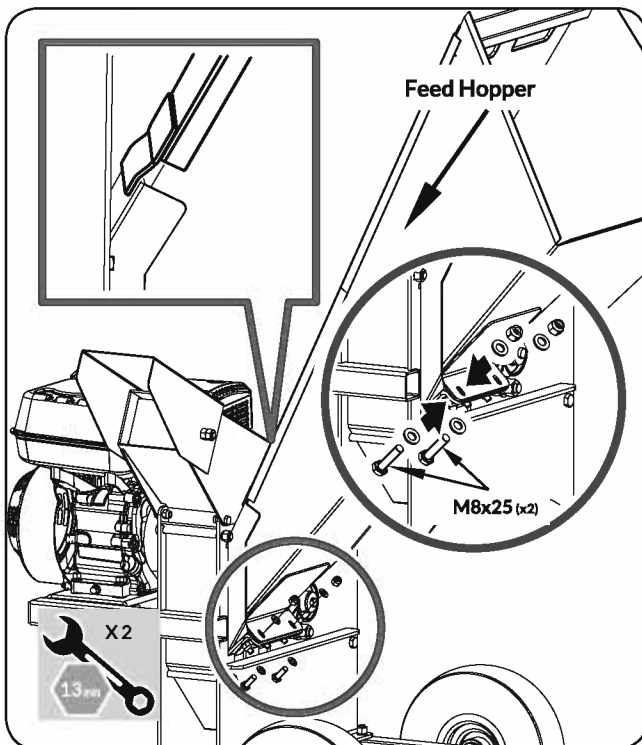

Figure 7
- Place the feed hopper onto the machine. Make sure the lip on the hopper goes over the chute housing on the main machine. Tighten the feed hopper on the unit with M8x25 bolts, washers and nuts. (See **Figure 7**)